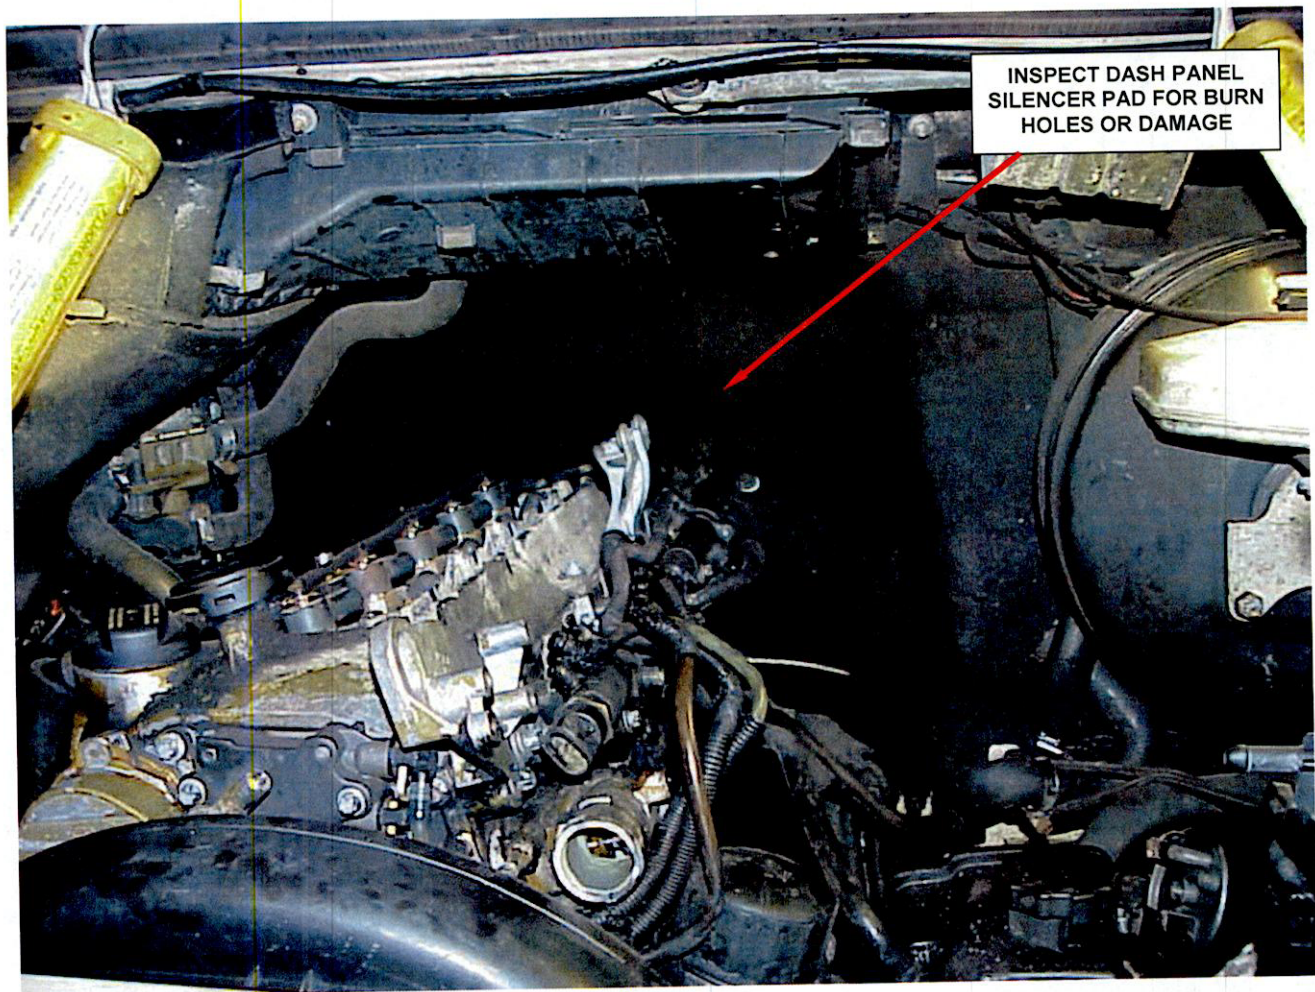

Figure 7 – Inspect Dash Panel Silencer Pad for Damage
- If no burn holes or damage is found on the dash panel silencer pad in the area shown in Figure 7, continue with Section C – Intake Manifold Installation.
- If the dash panel silencer pad is damaged or burned in the area shown in Figure 7, continue with Section B – Dash Panel Silencer Pad Replacement.